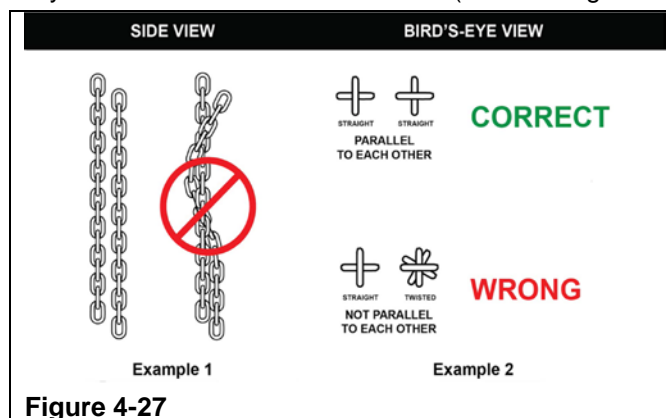

Figure 4-27
Step 37. Ensure that both chains are parallel to each other and have NO twists in them when they are installed into the chain nest. (Refer to Figure 4-27)